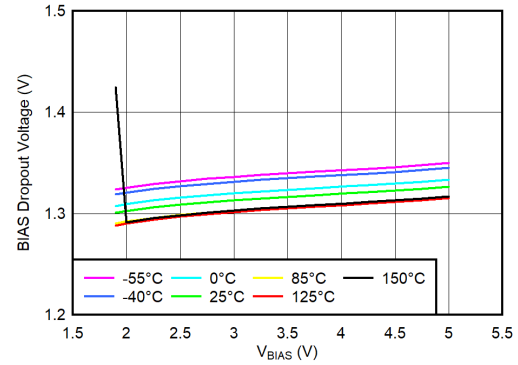

图 6-29. V_{IN} Dropout Voltage vs ($V_{BIAS} - V_{OUT}$) and Temperature (T_J)
- (1) Adjustable devices tested at 0.8 V; resistor tolerance is not taken into account.
(2) Dropout is defined as the voltage from V_{IN} to V_{OUT} when V_{OUT} is 3% below nominal.
(3) 3.25 V is a test condition of this device and can be adjusted by referring to Figure 6-29.